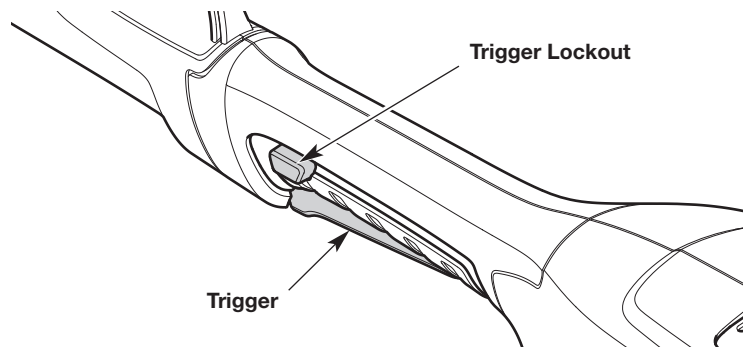

Fig. 10
1. Press and hold the trigger lockout (Fig. 10).
2. Continue to hold the trigger lockout. Squeeze and hold the trigger to start the unit (Fig. 10).
1. Release the trigger (Fig. 10).